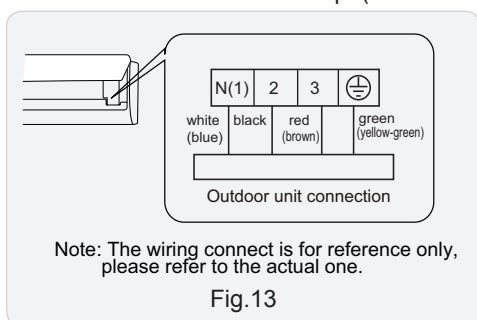

Fig.13
(3) Remove the wire clip; connect the power connection wire/signal control wire (only for cooling and heating unit) to the wiring terminal according to the color; tighten the screw and then fix the power connection wire with wire clip. (As show in Fig.13)